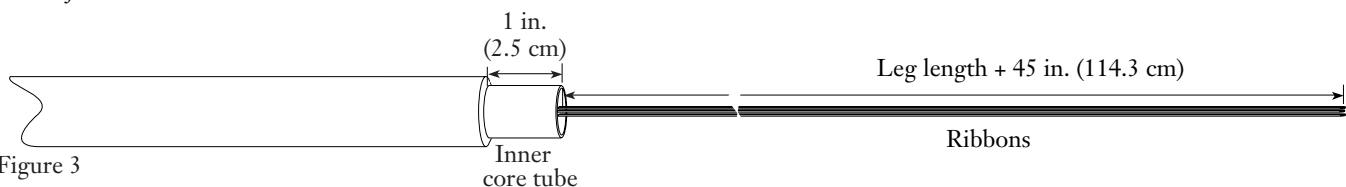

Figure 3
5.1 Remove the cable sheath, fiberglass strands and inner cable core tube in accordance with the cable vendor's instructions to the lengths shown in Figure 3.